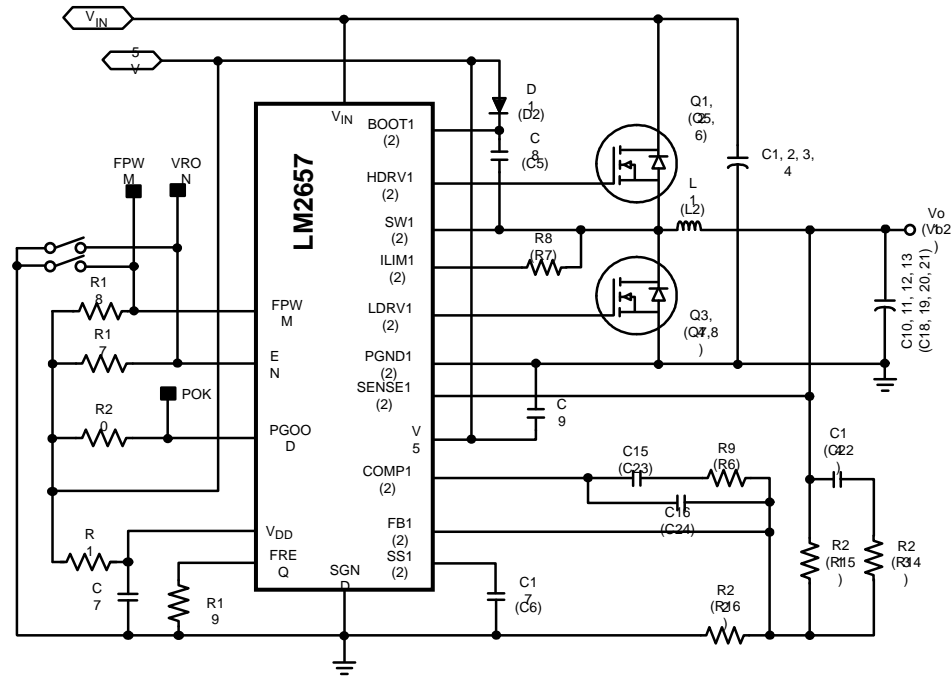

Figure 20. High Current Application Circuit
(1) In the BOMs listed above, the user has the option of using certain components in parallel. For example, in the typical apps board, C22 is a 100 μ F capacitor and C23 is optional. The user now has the option of using (2) 47 μ F capacitors. If this is done the compensation will need to be changed accordingly (C4 will be approximately half its original value.)
**Table 3. Bill of Materials (Figure 20)